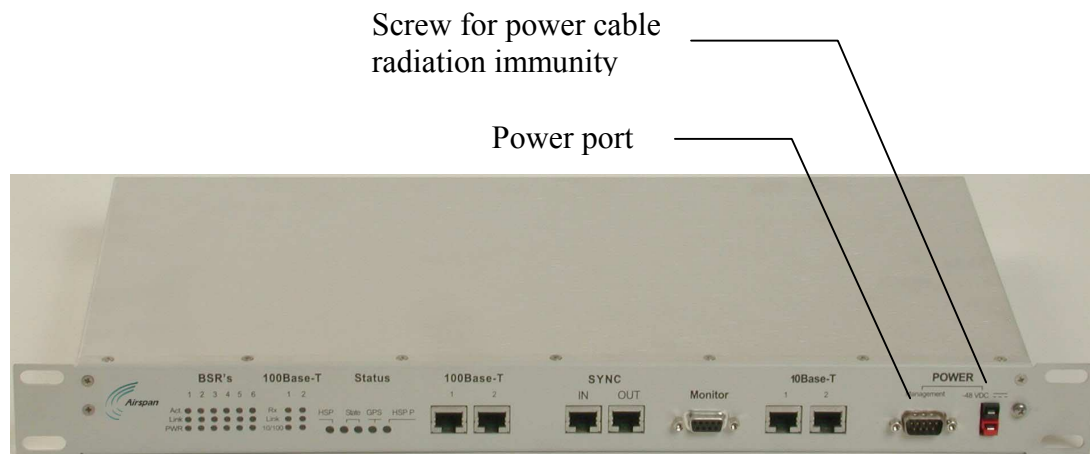

Figure 7-10: BSDU front panel with power port and screw attachment for power radiation immunity
2. Connect the power cable's yellow/green lug wire, for radiation immunity, to the BSDU chassis by using the screw attachment located alongside the power port, as displayed in Figure 7-10.